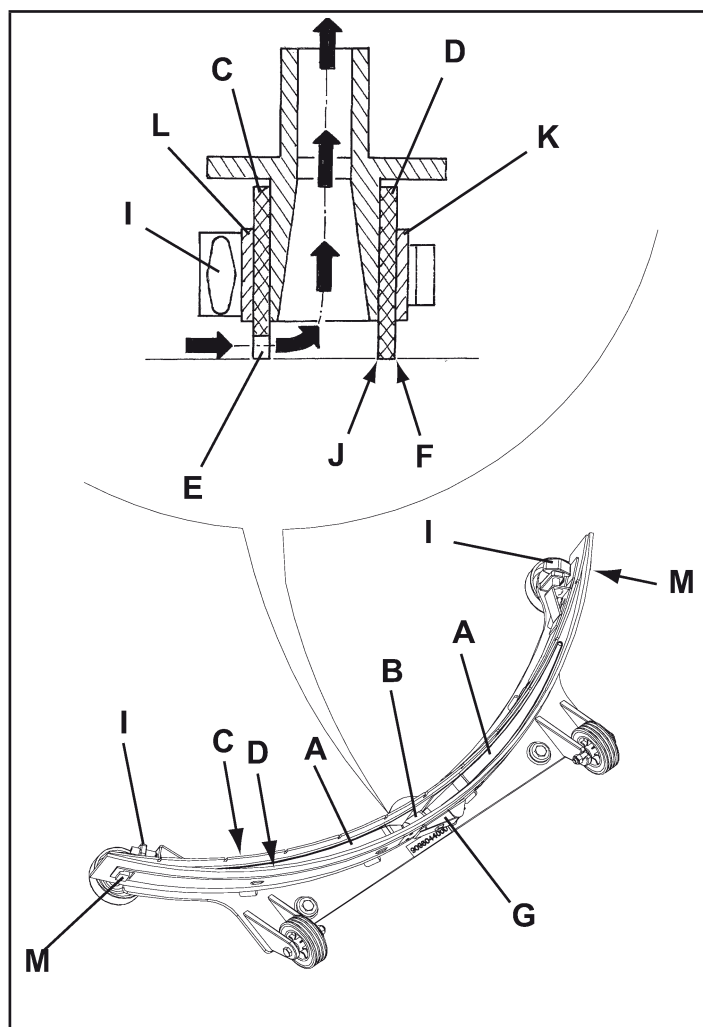

Figure 28
2. Check that the edges (E, Fig. 28) of the front blade (C) and the edges (F) of the rear blade (D) lay down on the same level, along their length; if necessary adjust their height according to the following procedure:
- Remove the tie rod (G), disengage the fasteners (M) and adjust the rear blade (D), then engage the fasteners (M) and install the tie rod (G).
- Loosen the knobs (I) and adjust the front blade (C), then tighten the knobs.
3. Check the front blade (C) and rear blade (D) for wear, cuts and tears; if necessary replace them according to the following procedure. Check that the front corner (J) of the rear blade (D) is not worn; if necessary, overturn the blade to replace the worn corner with an integral one. If the other corners are worn too, replace the blade according to the following procedure:
- Remove the tie rod (G), disengage the fasteners (M) and remove the retaining strip (K), then replace/overturn the rear blade (D). Assemble the blade in the reverse order of disassembly.
- Unscrew the knobs (I) and remove the retaining strip (L), then replace the front blade (C). Assemble the blade in the reverse order of disassembly.